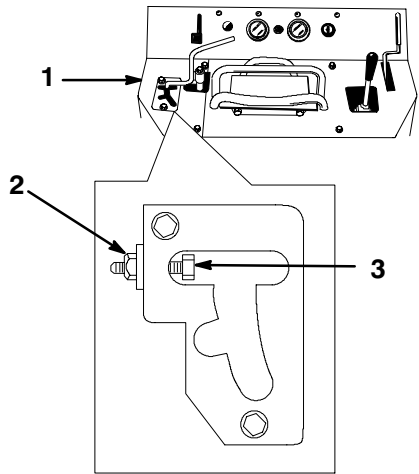

Figure 25
- Remove the three bolts securing the left control panel cover and remove the cover (Fig. 25).
- Loosen the jam nut on the adjustment bolt (Fig. 25).